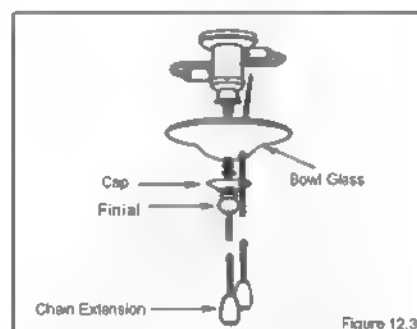

Figure 12.3
7. Attach chain extension (see figure 12-3).